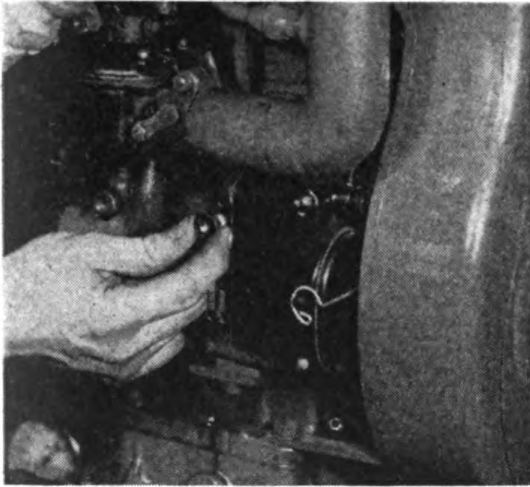

Figure 10
b. Turn the magneto switch to the "ON" position (See Figure 10) by turning to right as far as possible.
a. When the use of the five hose assemblies on the reels is no longer required, stop the engine by turning the switch knob on magneto to the left (See Figure 10).